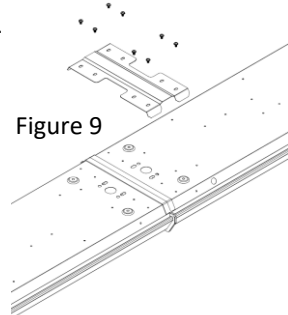

Figure 9
C. Continuous Row Mounting: If continuous row mounting is desired, pop out the knockouts on the ends of abutting fixtures and attach optional Wrap HNG Joiner Bracket 65625 to the top of abutting fixtures using the supplied screws (fig. 9).